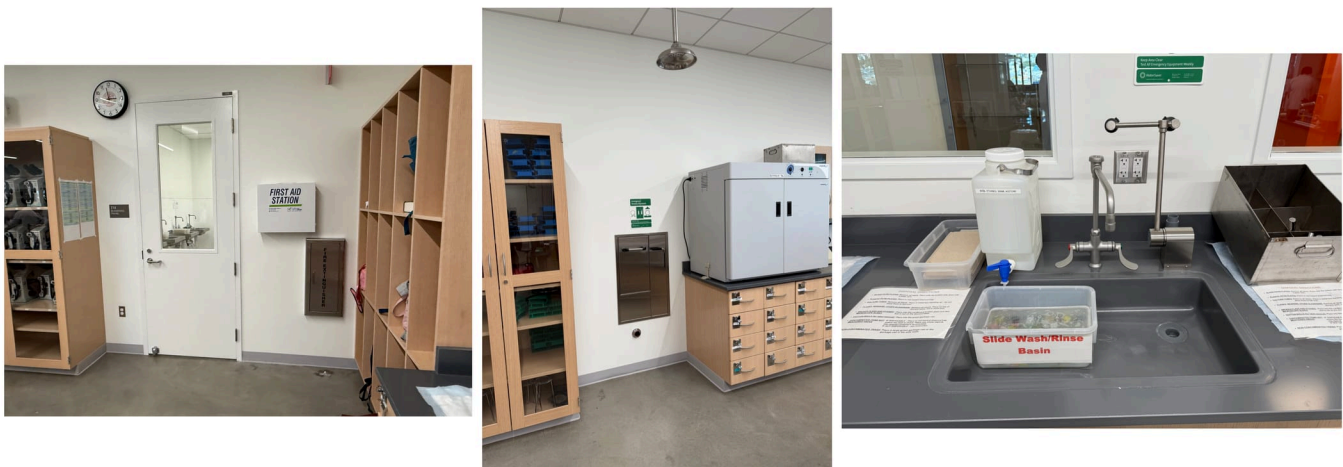

Figure 1.1: Left: Location of the first aid kit and fire extinguisher. Middle: Safety shower and eyewash. Right: ADA-compliant eyewash
2. Familiarize yourself with emergency exits, the eyewash station, the fire blanket and extinguisher, the first aid kit, and the broken glass container (Figure 1.1)